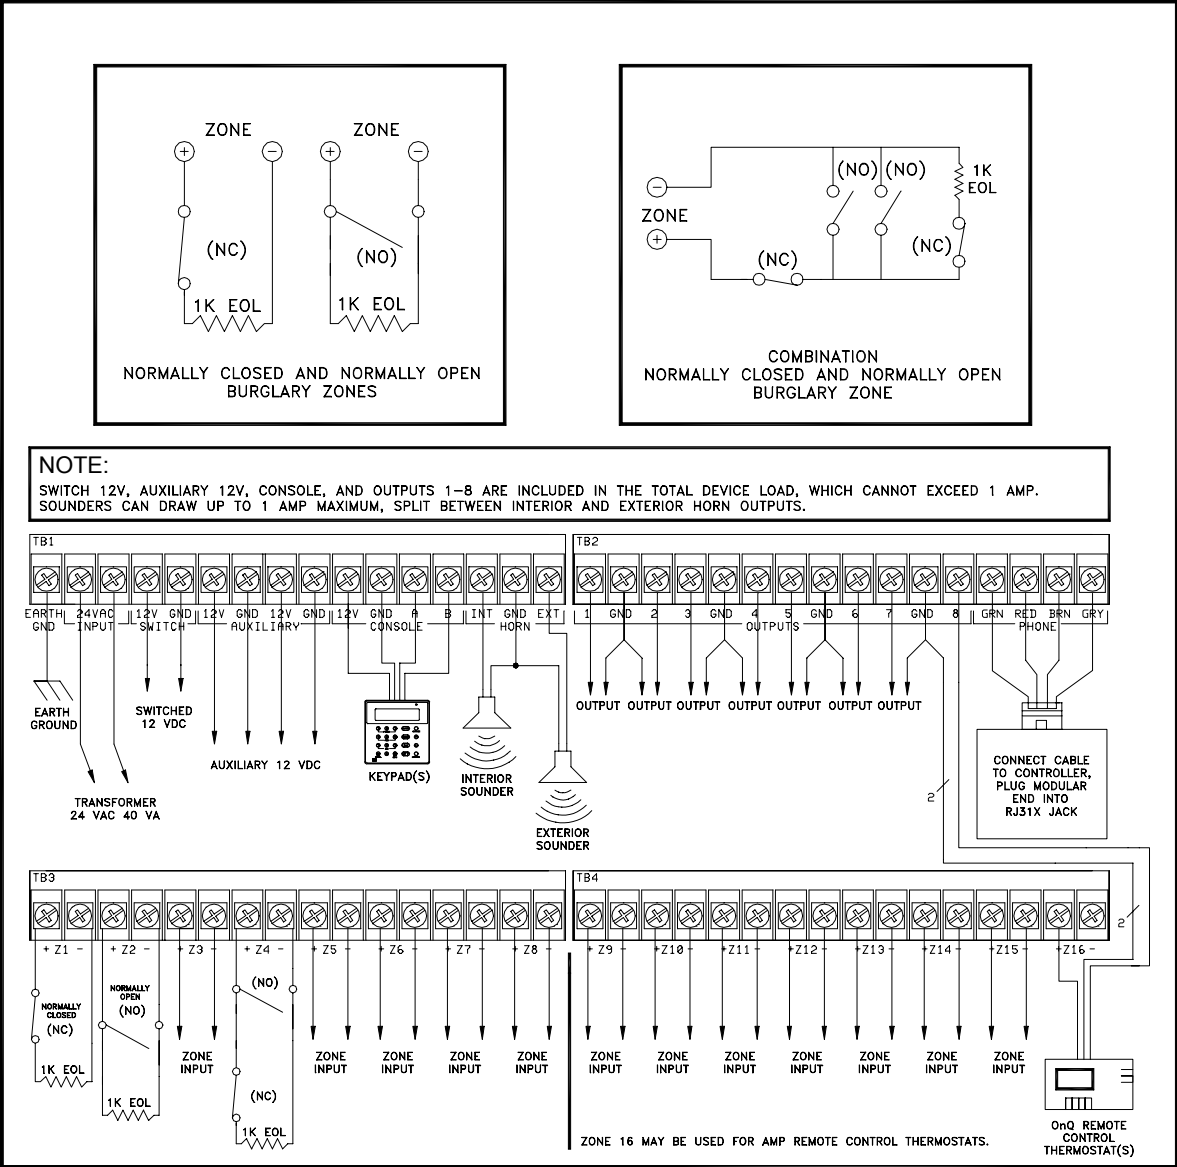

Figure 2 - Overall Connections Diagram
6. See **FIGURE 2 (OVERALL CONNECTIONS DIAGRAM)** for configurations of burglary zones.